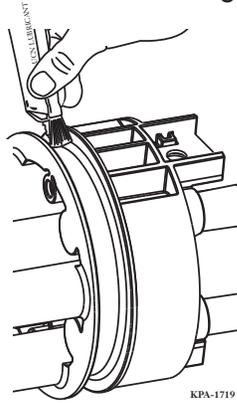

Figure 19
- Step 2:** Use the supplied brush to apply a third of the tube of UCN lubricant to the sealing ring channel on the end cap (Figure 19).